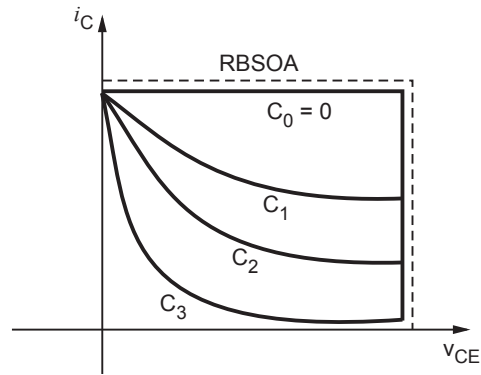

Fig. 1.6.14 Switching trajectory for various values of C
- Fig. 1.6.14 shows the switching trajectory of IGBT for various values of C.